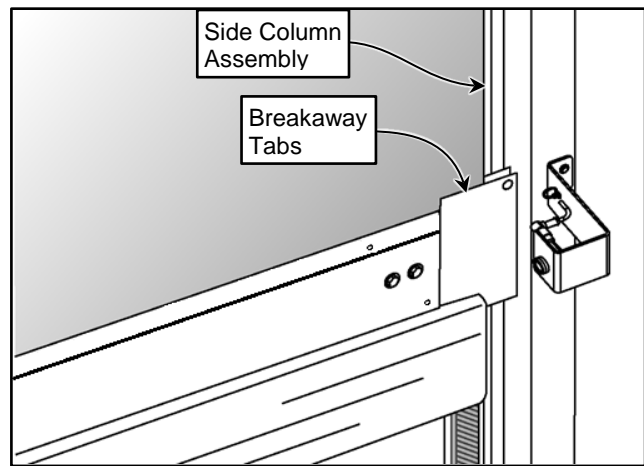

Figure 24
2. Push the breakaway bottom bar out of one of the side columns. (See Figure 24)